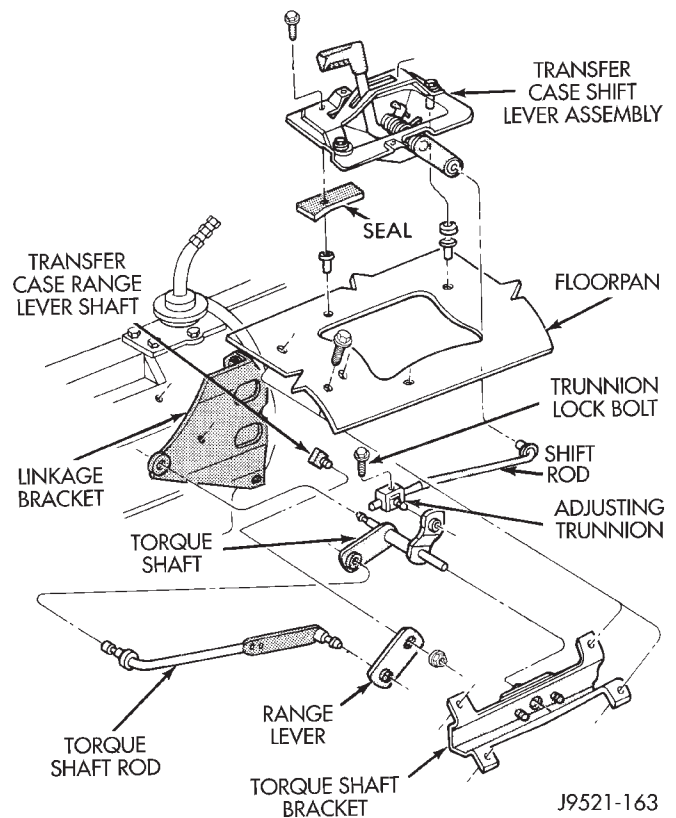

Fig. 97 Shift Linkage
- (1) Shift transfer case into 4L position.
- (2) Raise vehicle.
- (3) Loosen lock bolt on adjusting trunnion (Fig. 97).
- (4) Be sure linkage rod slides freely in trunnion. Clean rod and apply spray lube if necessary.
- (5) Verify that transfer case range lever is fully engaged in 4L position.
- (6) Tighten adjusting trunnion lock bolt.
- (7) Lower vehicle.